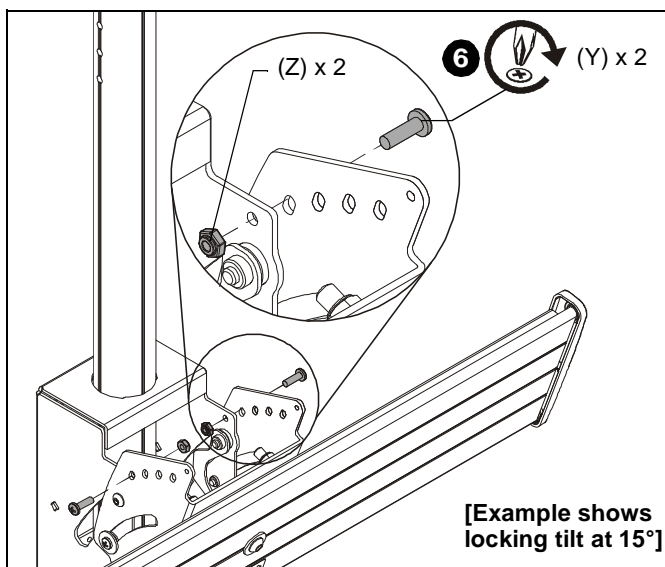

Figure 11
- If using the tilt settings of 0°, 5°, 10° or 15°, insert two 10-24 x 5/8" Phillips head screws (Y) and two 10-24 lock nuts (Z) to lock mount at the specific tilt. (See Figure 11)